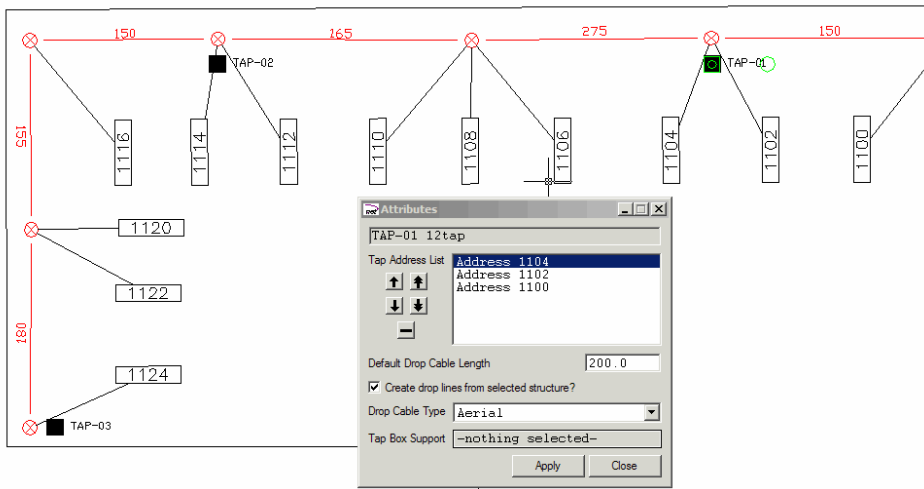

Figure 159 – Drop Tool showing auto-created drops and assignments of addresses to tap ports.
3. A panel similar to that shown in Figure 159, below will be displayed.